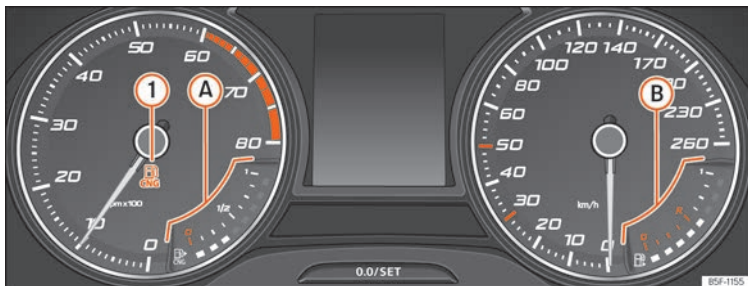

Fig. 81 Analogue instrument panel: natural gas gauge
It lights up green »» Fig. 81 ①